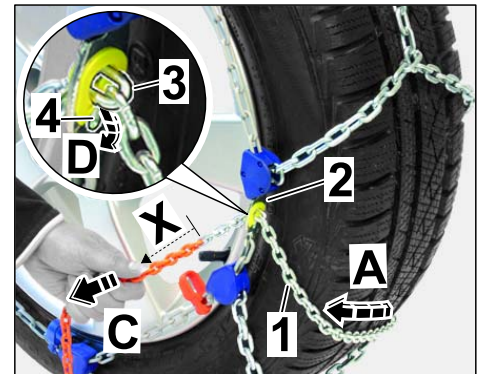

Figure 11
2.2.5 Pull the tensioning chain tightly through the locking plate (⇒ *Figure 11-C-*).
Check that the coloured part of the tensioning chain (⇒ *Figure 11-X-*) is pulled completely through the locking plate.
Engage chain link of the tensioning chain in the slot and lock on the locking plate (⇒ *Figure 11-D-*).